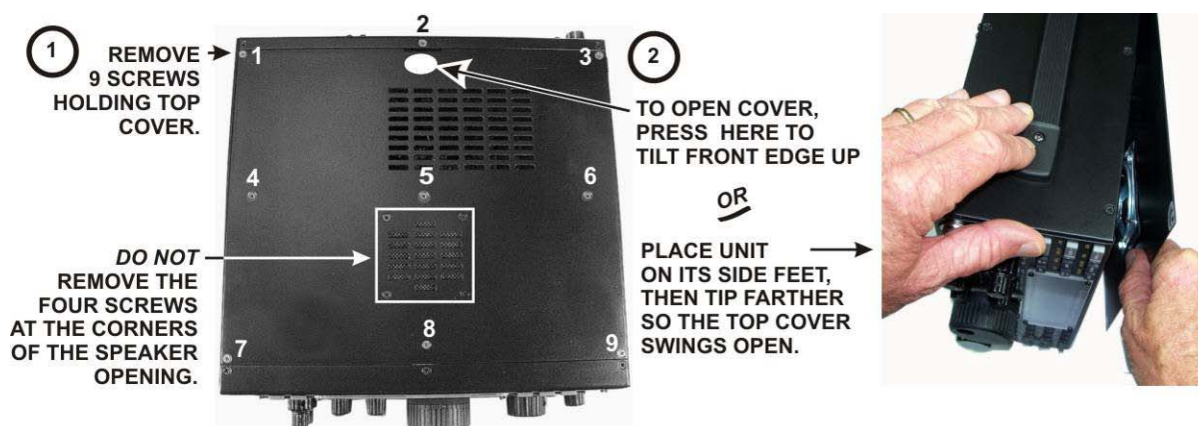

Figure 1. Removing K3 Top Cover.
- ☐ Remove the nine screws to free the top cover as shown in Figure 1. After the cover is open, lift it gently to reach the speaker wire connector. Unplug the speaker then set the top cover aside in a safe place.